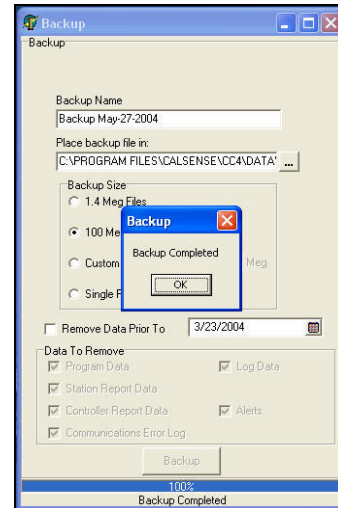

Figure 31.1.7
- After the backup is complete a small “Backup” screen will appear saying “Backup Complete”. Click on the **OK** button (Figure 31.1.7).